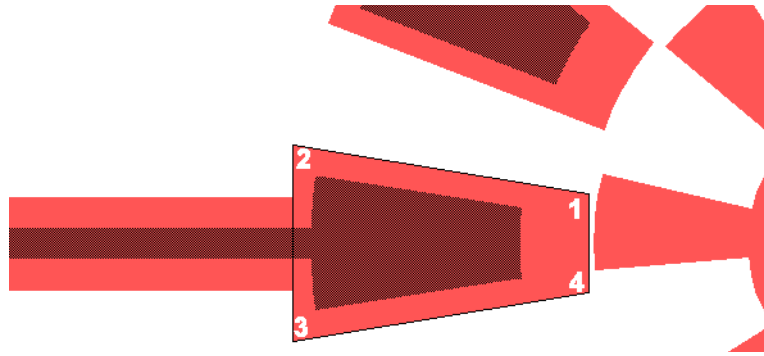

Figure 30: Creating the all angle polygon
- ☑ Select the **Window Zoom** tool to manipulate the view so that the left-most stator is visible (Figure 30).
- ☑ Left-click to set the first vertex of the polygon (vertex 1 in Figure 30). Left-click to set vertices 2 and 3, and then complete the polygon by right-clicking to determine the fourth vertex (Figure 30).